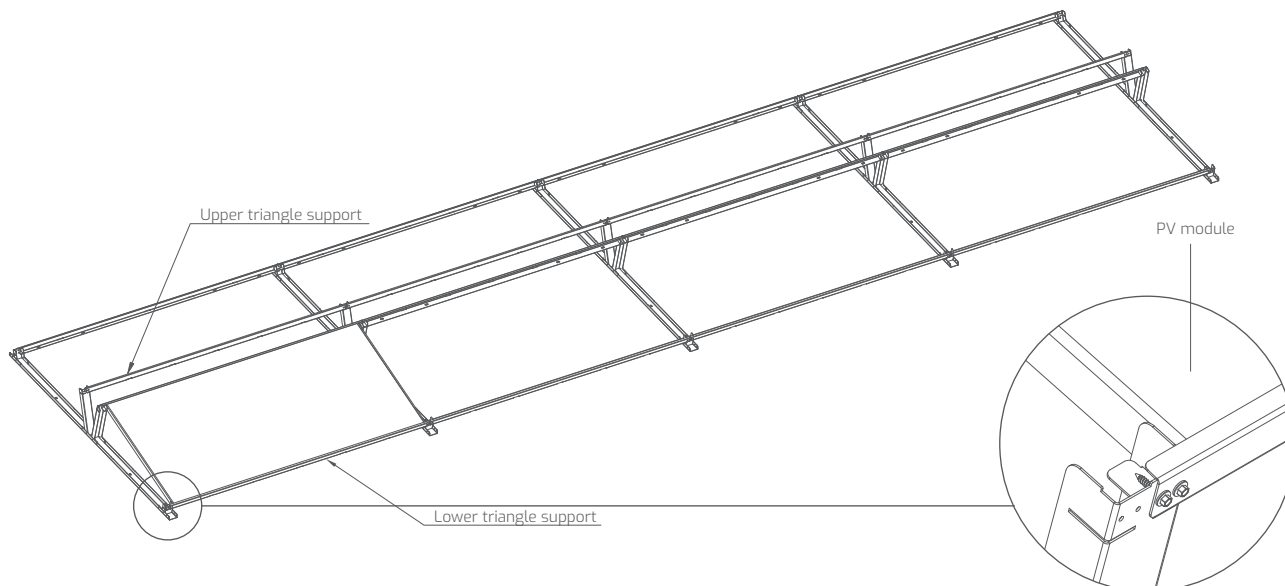

Fig. 4 Fastening the modules to the angle
- 3** In the invasive system, the permanent connection of the mounting triangle to the roof is made by means of a double-threaded screw and a chemical anchor (Fig.4).